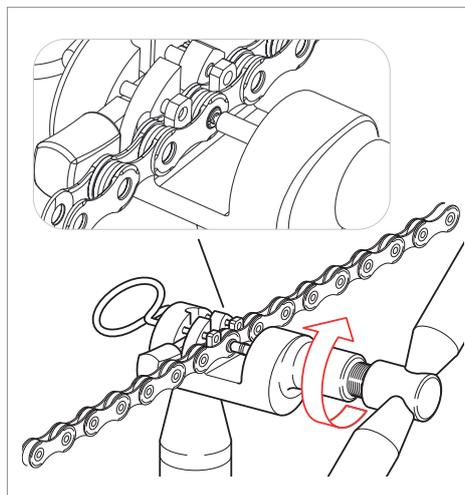

Fig.19
- Screw in the tool to bring the pusher into contact with the protruding end of the ULTRA-LINK 5-CN-SR700 bush, turning it by about 3/4 of a turn and exerting moderate force till distorted (**Fig. 19**).